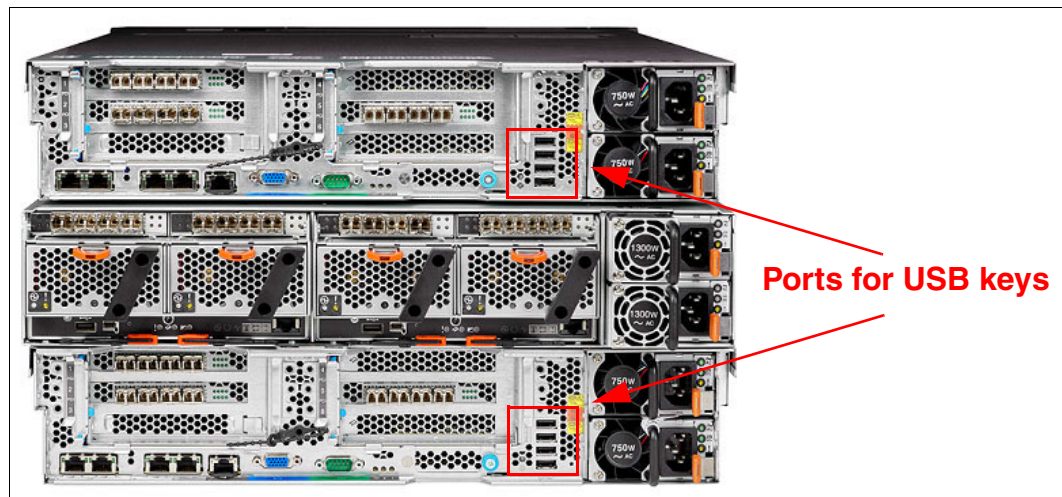

Figure 9-61 Set the IBM USB keys in the system
1. Insert the IBM USB keys into the system (Figure 9-61), two keys in one control enclosure and one key in the other. The extra key will be removed later.